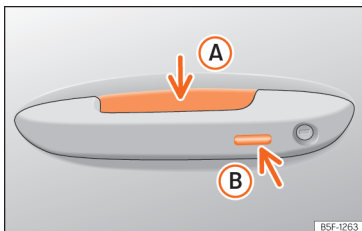

Fig. 72 Driver door lever: sensor surfaces.
»» Fig. 72
- Touch the sensor surface »» Fig. 72 **B** on the outside of the door handle. All turn signals flash once.
- Within 5 seconds, touch the sensor on the outside of the door handle »» Fig. 72 **B** once. Do not grip the handle while doing so. This temporarily deactivates the Keyless Access system.
To close all the electric windows and the sunroof using the **comfort function**, keep a finger for a few seconds on the locking sensor surface »» Fig. 72 ② of the door handle until the windows and roof have closed.